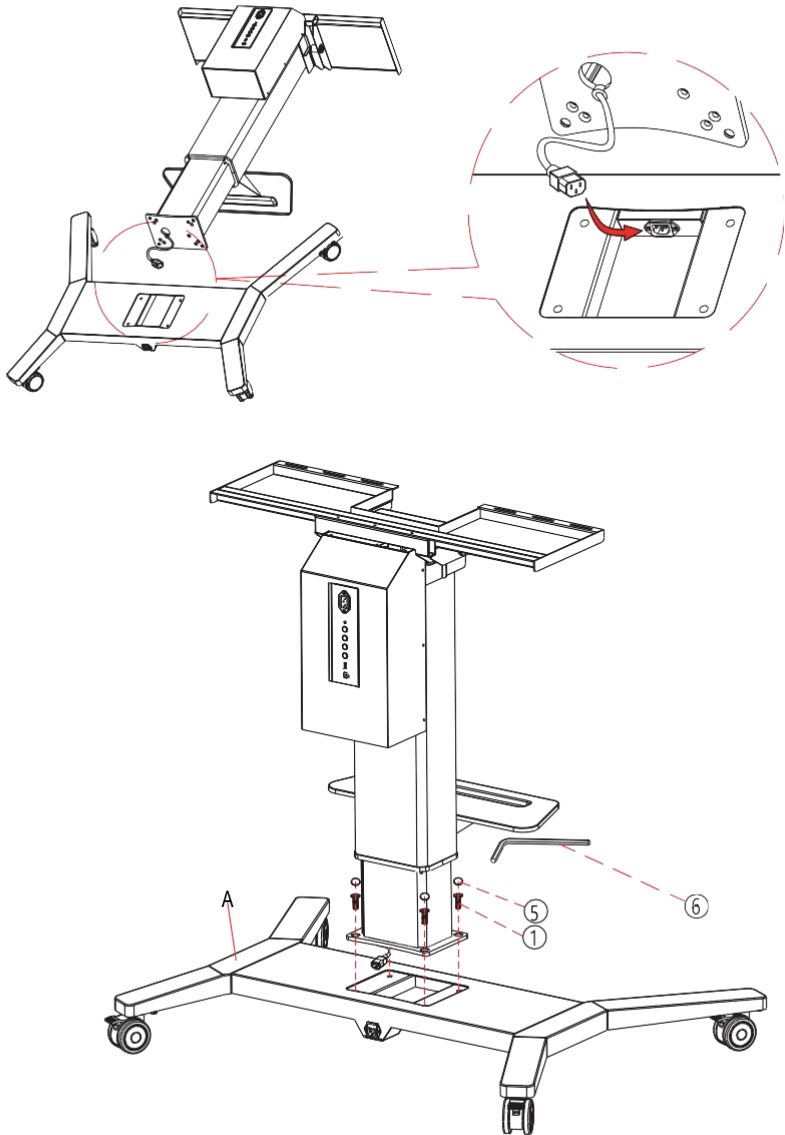

figure 3
Step3: Connect the power cable between the lifting column B and the base A, install the lifting column and tighten the screws (figure 3).